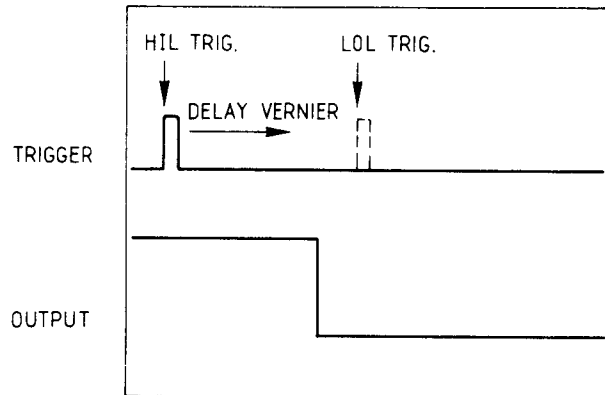

Figure 4-18. HIL, LOL Measurements
6. For measuring LOL set pulse delay vernier cw till the trigger is in the low level area (see figure 4-18). Set 8160A LOL to -0.1 V and HIL to 0 V. Set EXT INPUT IMP. back to 50Ω . Repeat table 5-5 for same values but LOL.
6. Measure pulse top and bottom levels by changing pulse generator delay vernier (see fig. 4-18). Levels should be within limits of table 4-6.